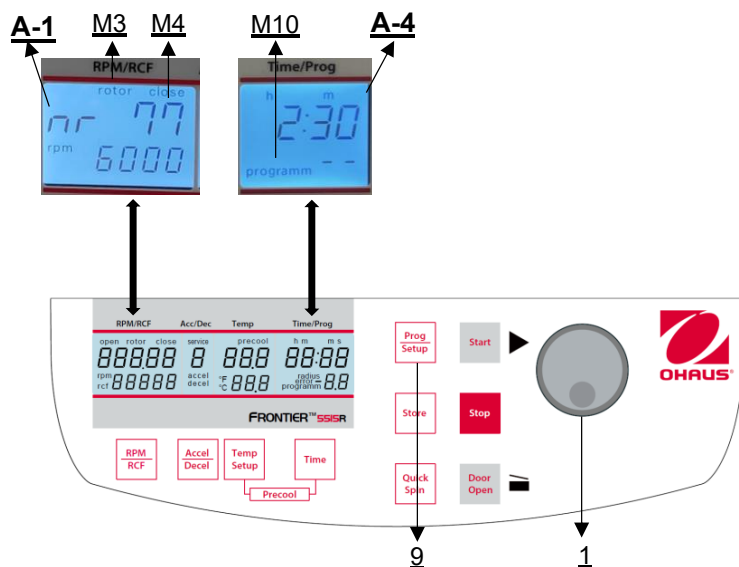

Figure 25
To recall stored programs, press the key **"Prog/Setup"** (9) (see Figure 25) while the lid is already closed. Inside the display **"Time/Prog"** (A-4), **"program--"** (M10) appears. The desired program number can be pre-selected with the adjusting knob (1).
To leave the program mode just press the key **"Prog/Setup"** (9) (see **Figure 25**). Then inside the display **"Time/Prog"** (A-1) the word **"programm"** (M10) appears. Set the display to **"programm--"** (M10) with the adjusting knob (1).